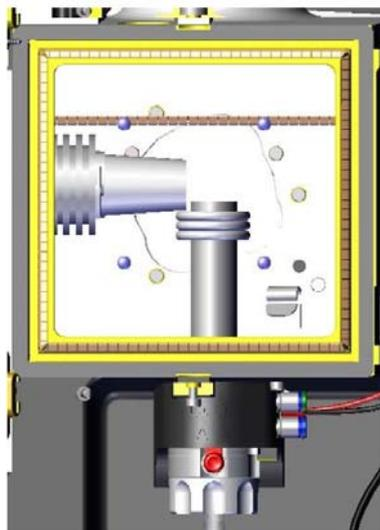

Figure 6-20. Torch installation in the torch box
6. Push the torch assembly up into the torch box and twist clockwise until the red orientation lock locates in the torch box casting. See Figure 6-20.